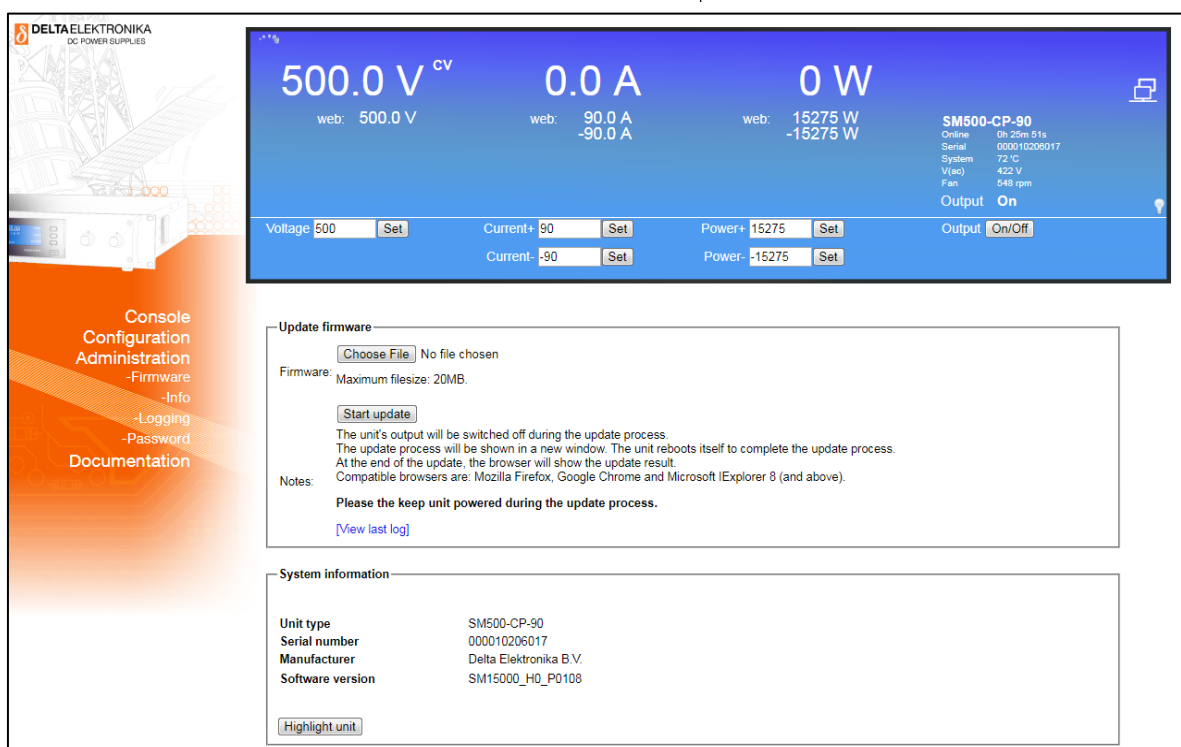

fig 7 - 3 - Via the web interface the downloaded firmware package can be uploaded to the unit.
- Select "Choose File" and browse to the downloaded package, enter password and "Start Update". See above (figure 7 – 3) for a screen shot of the web interface.